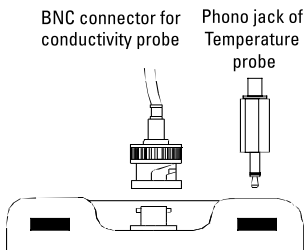

Figure 7: Meter Connections
1. Make sure that the phono jack (for temperature measurement) is properly connected to the meter. See **Figure 7**.